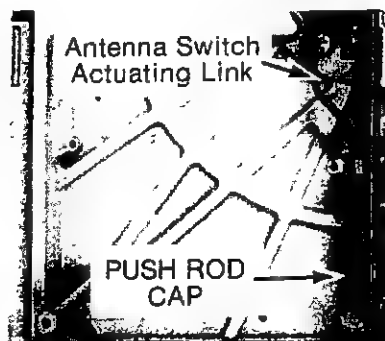

Fig. 3-4. Antenna Push Rod Cap
3. Check antenna switch action by placing function lever in "off" position and then in "play" position to be certain antenna switch is operating properly (Figs. 3-4 & 2-13).